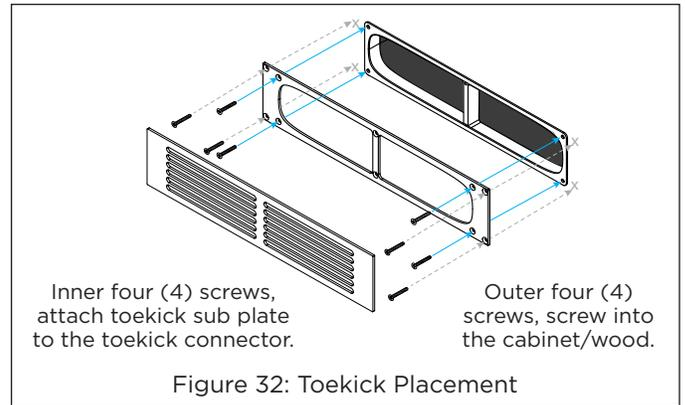

Figure 32: Toekick Placement
8. From the front side of the cabinet, level and secure the toekick sub plate to the cabinet at the four outer screw holes using the four included long screws (see Figure 32).